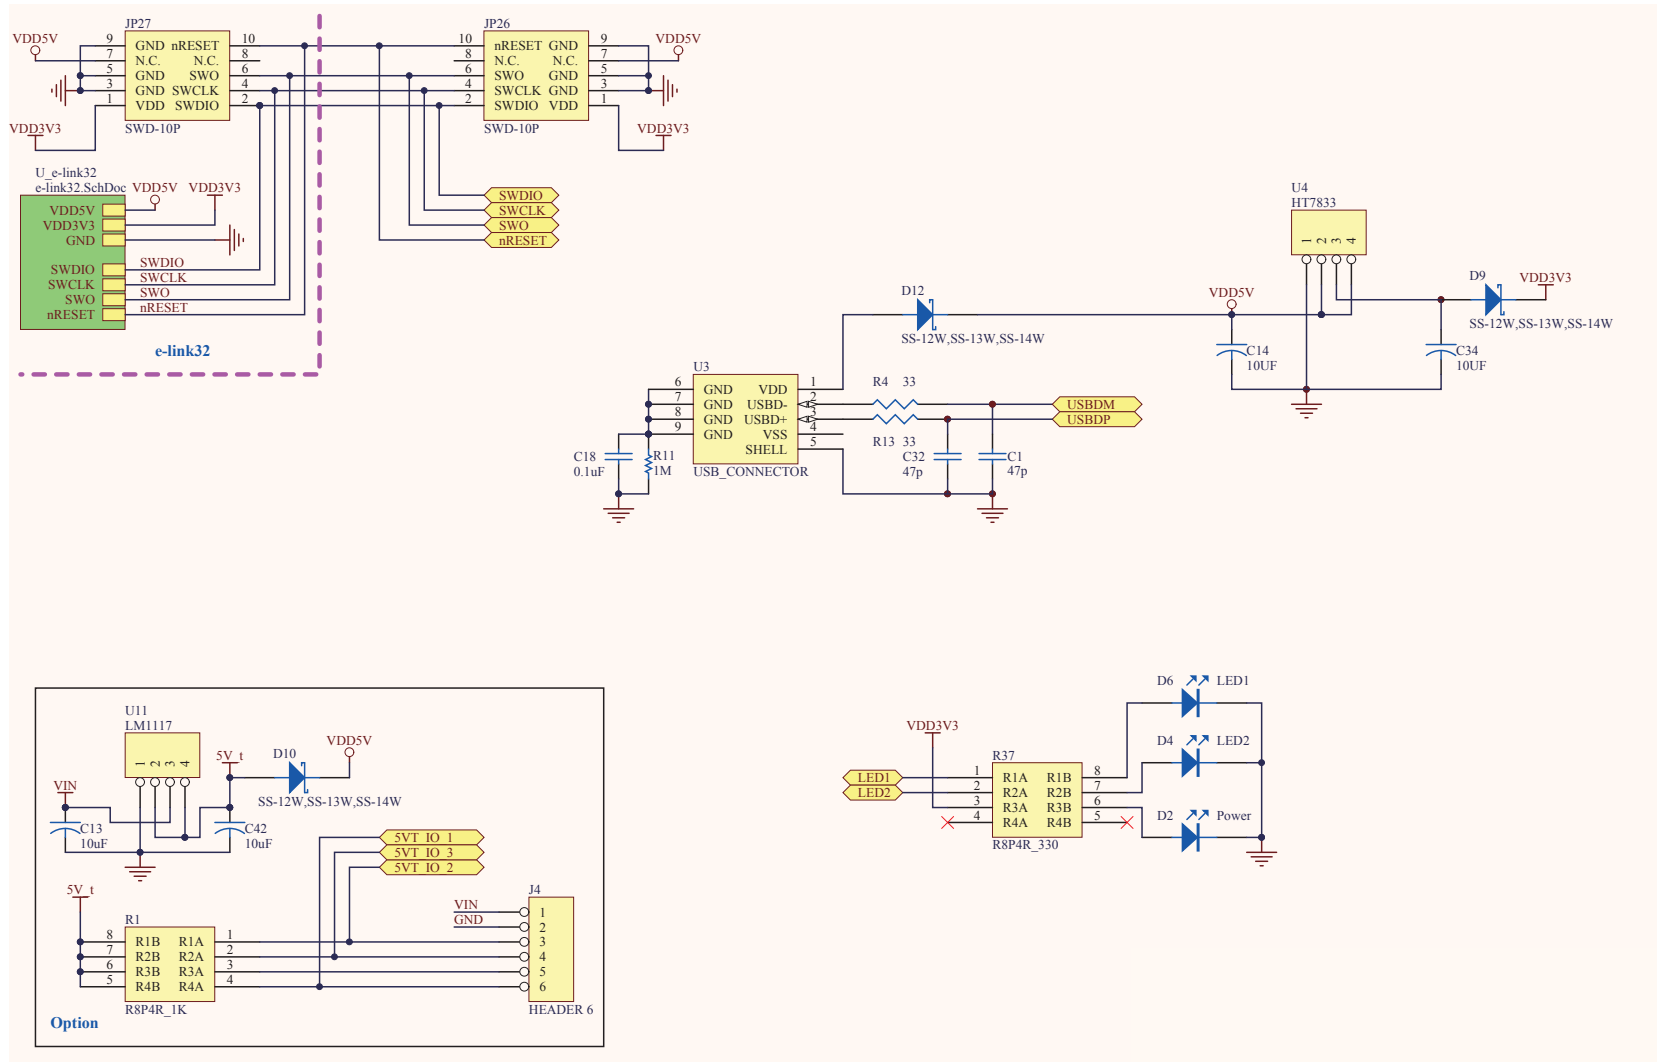

Figure 10. SWD Connector, LED Display and the Power
- Figure 10. Includes SWD Connector, LED Display and the Power.